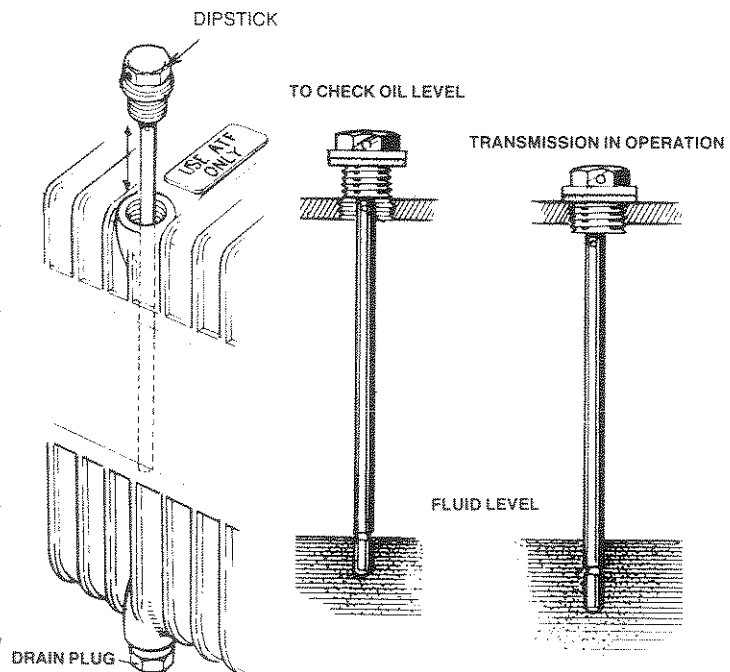

Figure 19. Dipstick Oil Levels
7. Fill gearbox with automatic transmission fluid to the level indicated by the dipstick mark (See Figure 19).